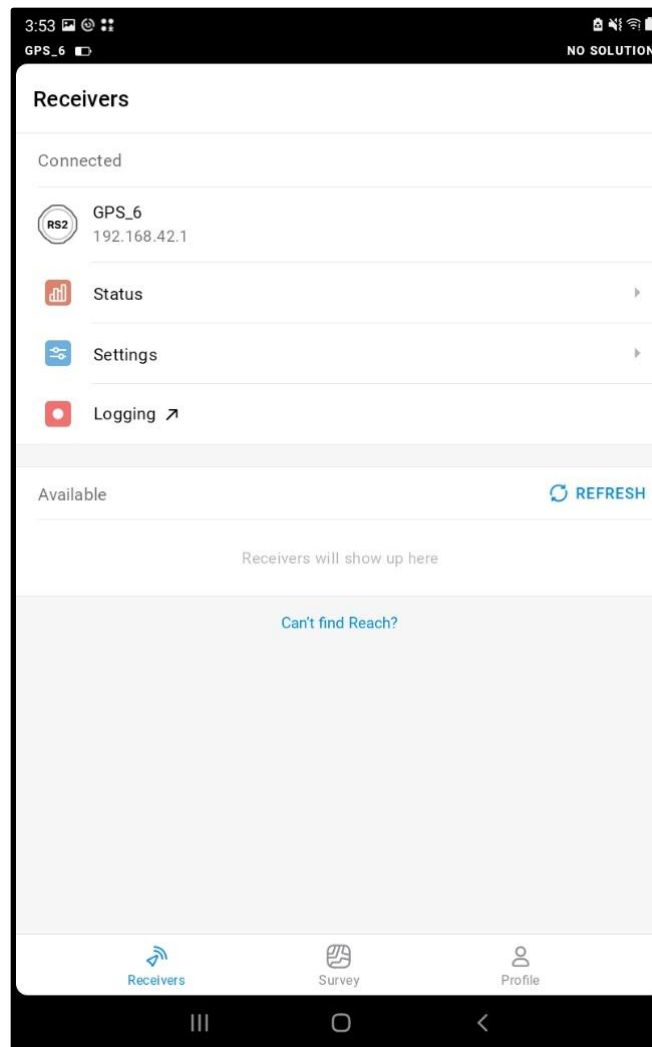

Figure 19. Image showing Reachview3 Application Home screen
- b. Upon opening the app, you will see the Refresh button in the right-hand corner spinning and gray. When the connection to your GPS is made, the symbol will turn blue, and you will see the following “Receivers” screen display. (Figure 19)